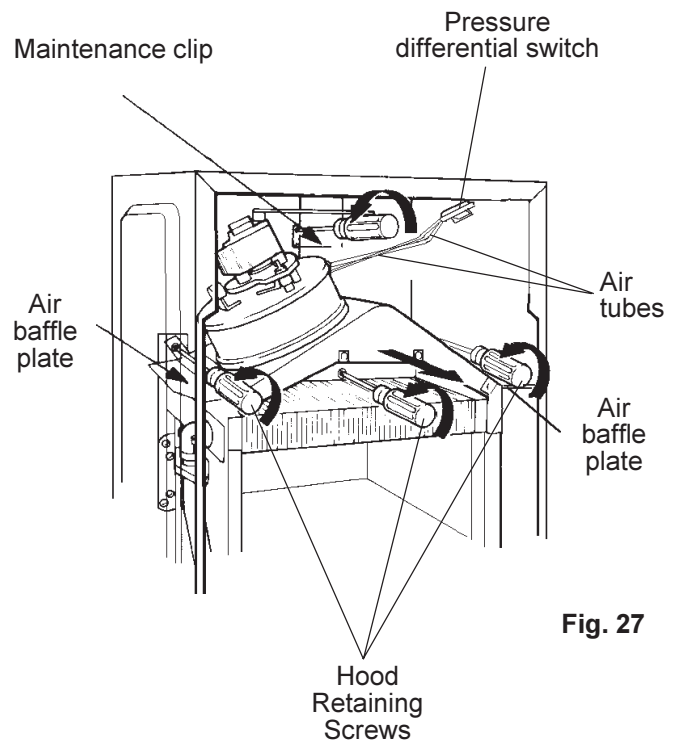

Fig. 27
- 8.8.4 Remove two air baffle plates, 1 screw securing each (fig.27).
8.9.2 Loosen maintenance clip securing screws (see fig.27) and slide upwards to clear joint.
8.9.4 Remove 3 flue hood retaining screws (see fig. 27).
Refer to Fig. 27